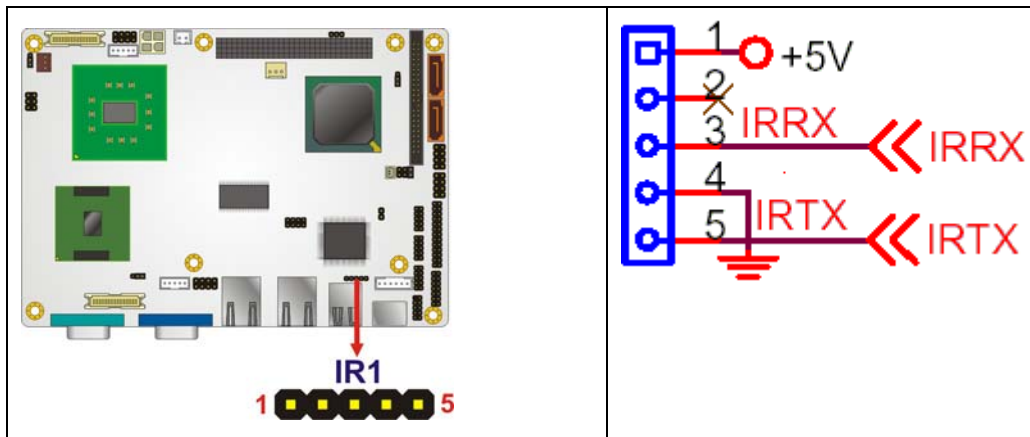

Figure 4-13: Infrared Connector Pinout Locations
- CN Location:** See Figure 4-13